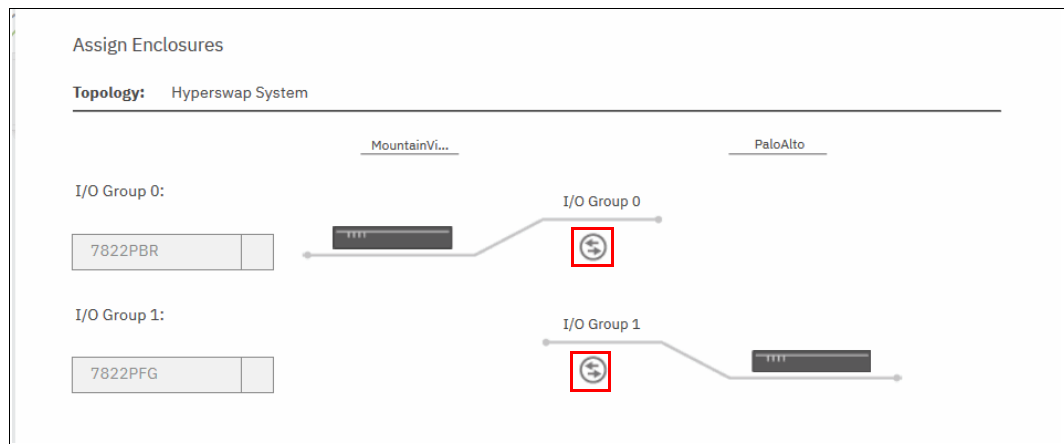

Figure 3-35 Specifying the system topology
- Assign I/O groups to sites. Click the marked icons in the center of the window to swap site assignments, as shown in Figure 3-35. Click **Next**.